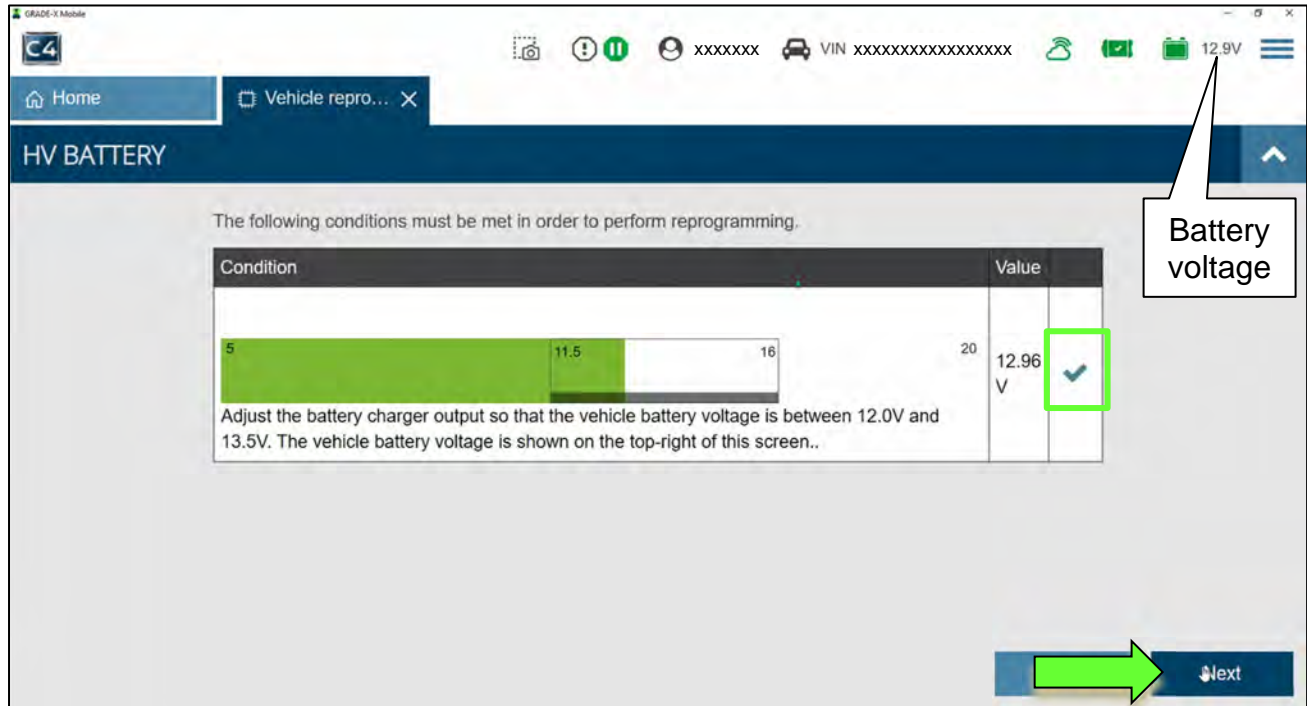

Figure 8
24. When 12V, or greater, is displayed in the "Value" field (Figure 8) and the green check mark appears, select **Next**.